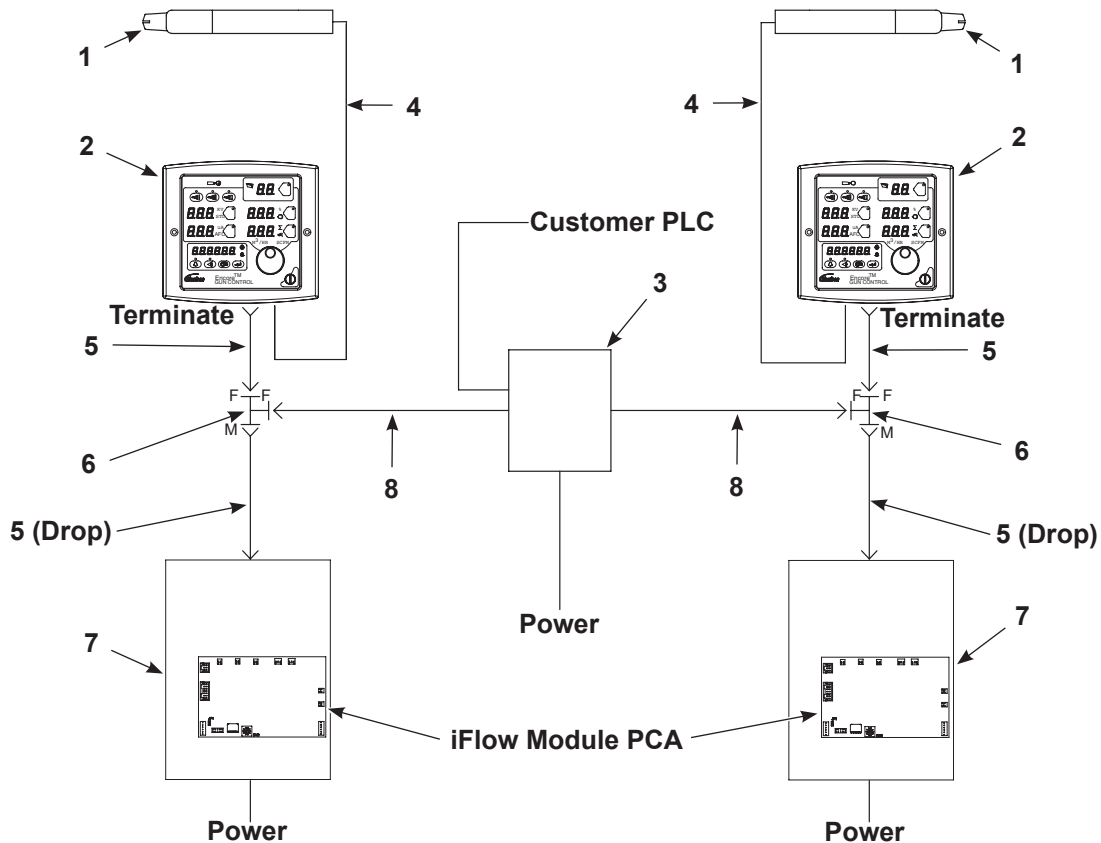

Figure 1 Connections for 2 Spray Gun Robot Systems
Figure 1 shows a typical dual robot spray gun system and the connections required for CAN communication between the Encore controller interface and the customer PLC.
See Figure 1. Each Encore controller interface (2) must be configured with the function codes set to the values listed in Table 1 for each spray gun in a dual robot spray gun system.
1. See Figure 1. Access the iFlow PCA inside the Encore HD pump control unit (7).